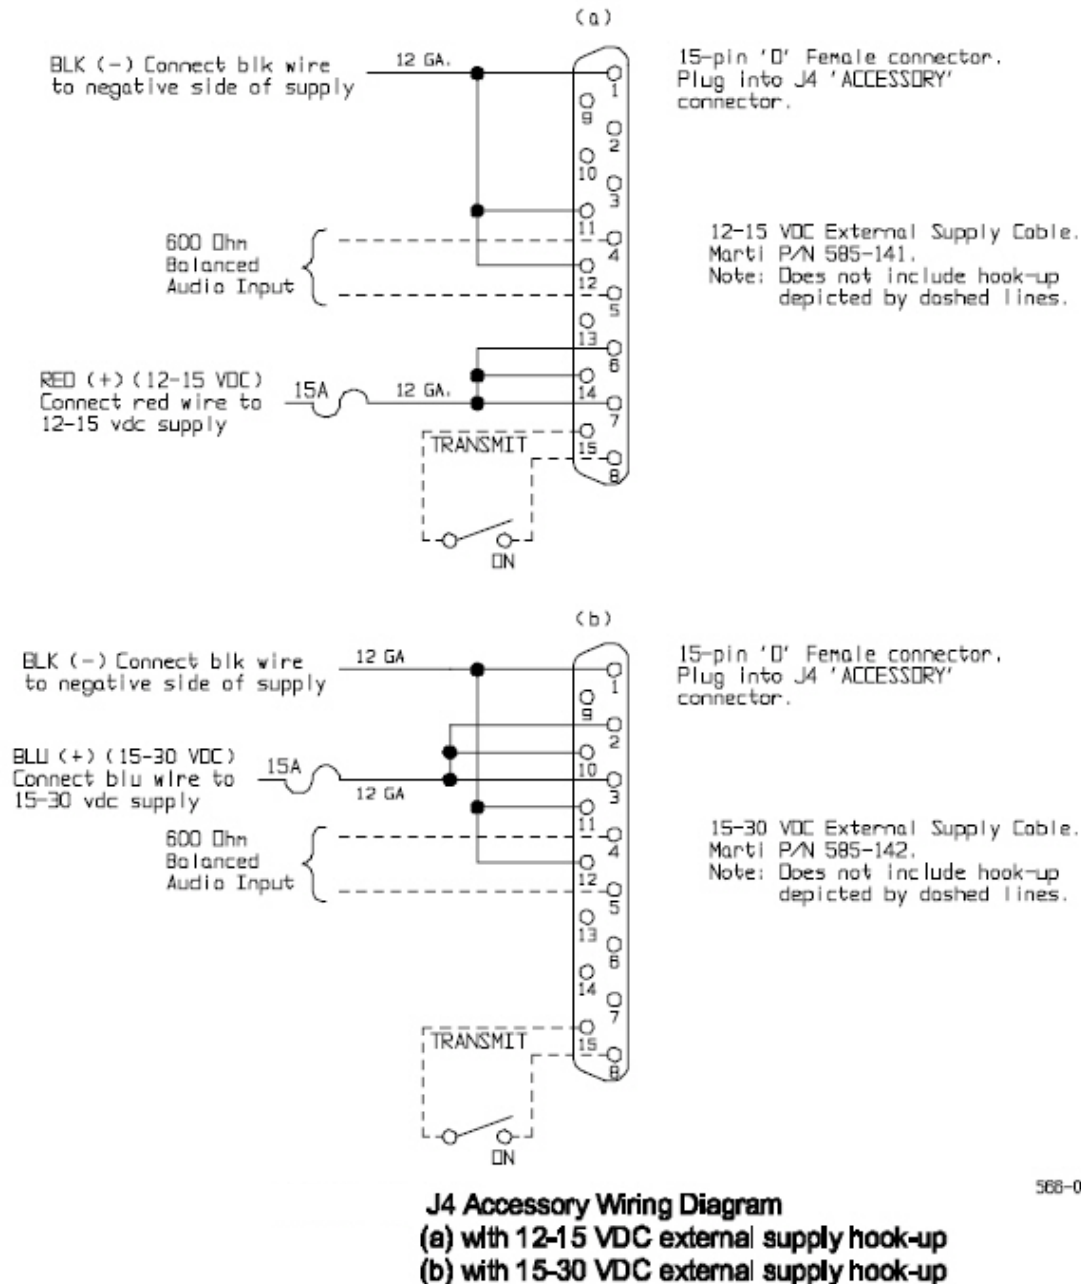

Figure 2-2. J4 Accessory Wiring Diagram
3. The Accessory Terminal Bus Board or the J4 Accessory D-sub Connector has several uses such as remote control, automatic switching, and external DC power. The Accessory Terminal Bus Board contains all the power and signal interface connections via the 16-pin terminal bus. The appropriate connections are labeled on the board. To access the J4 Accessory D-sub Connector, the Accessory Terminal Bus Board must be removed. See FIGURE 2-2 - J4 Accessory Wiring Diagram, for illustration on how to hook-up.
1. Monophonic program audio input (balanced) is connected to terminals 1 and 2 on the Accessory Terminal Bus Board (located on the back panel of the STL-20C/M). The audio input can also be connected directly to the J4 ACCESSORY D-sub connector pins 4 and 5 by removing the Accessory Terminal Bus Board. See FIGURE 2-2 - J4 Accessory Wiring Diagram for illustration of how to hook-up audio inputs to the J4 ACCESSORY D-sub connector. Use shielded wire. Program audio level required is +8 dBm, 600 ohms balanced and isolated from ground. For dual channel stereo repeat instructions at second transmitter. Audio processing requirements will be discussed in the OPERATION section of this manual.
2. Connect a remote control or subcarrier generator (modulator) to the jack marked, J1 or J3 SUB IN. The subcarrier source may be 50 to 5K ohms impedance, and the input level required is approximately one (1) volt RMS. Systems factory supplied with 250 KHz IF bandwidth will carry subcarriers up to 92 KHz. For other subcarrier frequencies or narrow IF bandwidth systems contact the factory. A second subcarrier generator can be connected to J3. If a dual channel stereo STL is used connect one subcarrier generator to J1 or J3 on each channel's transmitter.
3. The Accessory Terminal Bus Board or the J4 Accessory D-sub Connector has several uses such as remote control, automatic switching, and external DC power. The Accessory Terminal Bus Board contains all the power and signal interface connections via the 16-pin terminal bus. The appropriate connections are labeled on the board. To access the J4 Accessory D-sub Connector, the Accessory Terminal Bus Board must be removed. See Figure 2-2 - J4 Accessory Wiring Diagram, for illustration on how to hook-up.
The external supply must be capable of delivering 8.5 Amps if running the STL-20C/M at maximum power. If connecting to the Accessory Terminal Bus Board, connect three positive leads to terminals 11, 12, and 13. Connect three negative leads to terminals 8, 9, and 10. If connecting to the 15-pin D-sub Accessory J4 connector, first remove the Accessory Terminal Bus Board. Referring to FIGURE 2-2 - J4 Accessory Wiring Diagram, connect three positive leads of the supply to pins 6, 7, and 14 of the ACCESSORY connector. Connect three negative leads of the supply to three of the four ground pins (pins 1, 8, 11, and 12) of the ACCESSORY connector. Each of the three positive leads and each of the three negative leads should be an 18 gauge wire or one 12 gauge wire split into three at the end.
The external supply must be capable of delivering 8.5 Amps if running the STL-20C/M at maximum power. If connecting to the Accessory Terminal Bus Board, connect at least three positive leads to terminals 4, 5, 6, and 7. Connect three negative leads to terminals 8, 9, and 10. If connecting to the 15-pin D-sub Accessory J4 connector, first remove the Accessory Terminal Bus Board. Referring to FIGURE 2-2 - J4 Accessory Wiring Diagram, connect four positive leads of the supply to three of the four 15-30VDC pins (pins 2, 3, 9, and 10). Connect three of the four negative leads of the supply to the four ground pins (pins 1, 8, 11, and 12). Each of the four positive leads and each of the four negative leads should be an 18 gauge wire or one 12 gauge wire split into three at the end.